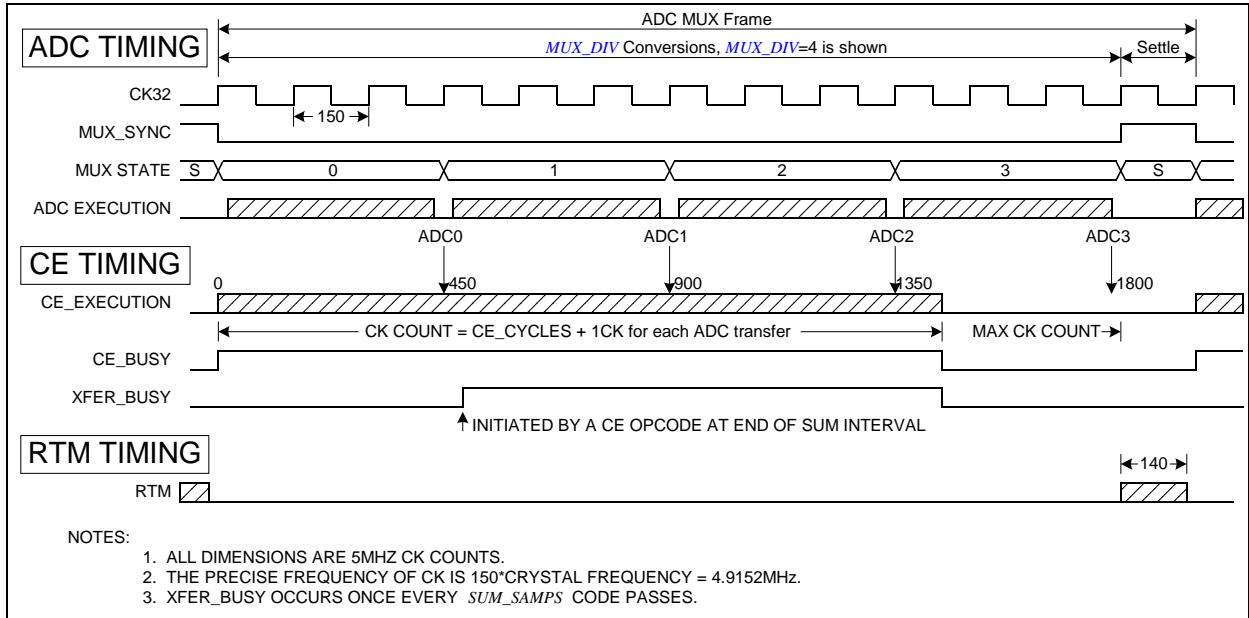

Figure 11: Timing relationship between ADC MUX, CE, and RTM Serial Transfer
Figure 11 summarizes the timing relationships between the input MUX states, the CE_BUSY signal, and the RTM serial output stream. In this example, $MUX_DIV[3:0] = 4$ ($I/O\ RAM\ 0x2100[7:4]$) and $FIR_LEN[1:0] = 10$ ($I/O\ RAM\ 0x210C[1]$), (384), resulting in 4 ADC conversions. An ADC conversion always consumes an integer number of CK32 clocks. Followed by the conversions is a single CK32 cycle.
Figure 11 also shows that the RTM serial data stream begins transmitting at the beginning of state S. RTM, consisting of 140 CK cycles, always finishes before the next CE code pass starts.